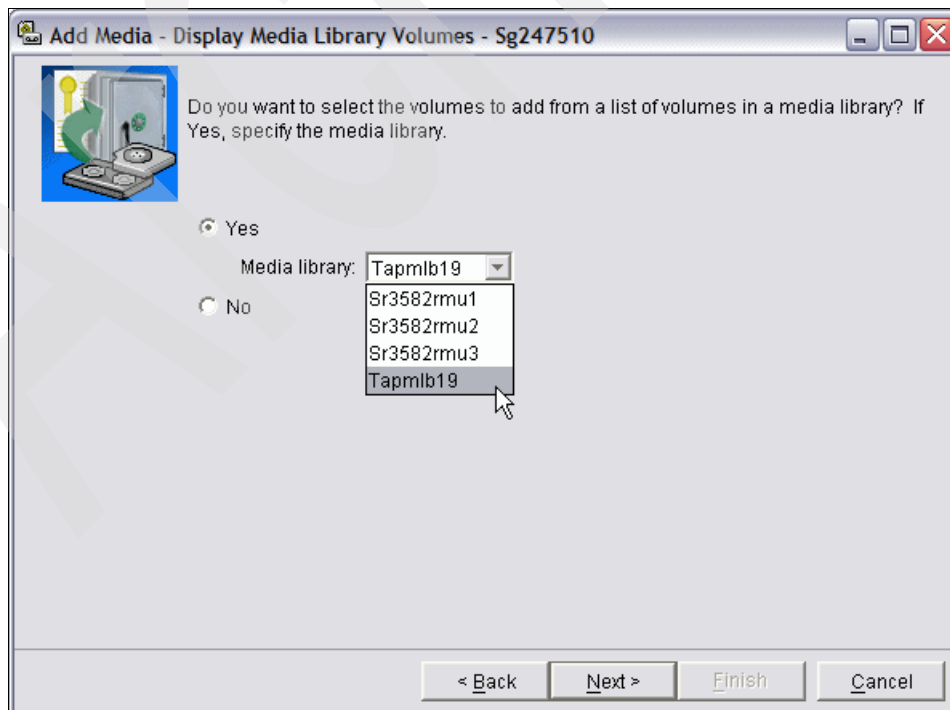

Figure 6-19 Add Media - Display Media Library Volumes
13.In the next window (Figure 6-19):